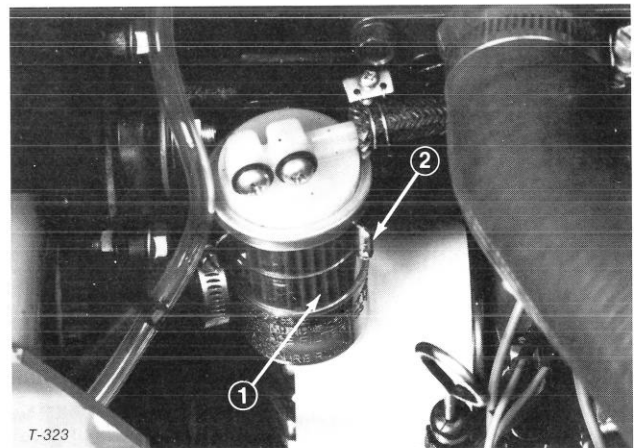

Figure 51
1. Loosen clamps and remove lines from assembly (Fig. 51).
2. Remove filter assembly from mounting clamp (Fig. 51).